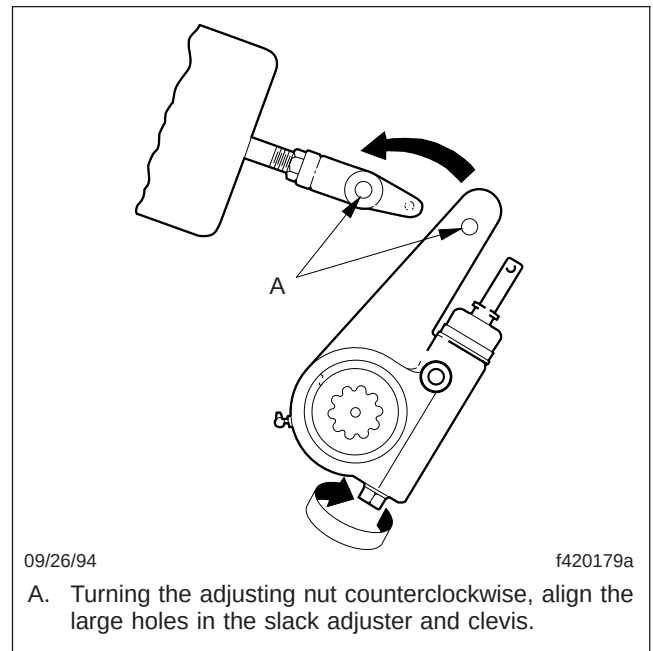

Fig. 4, Slack Adjuster Installation
- 6.5 Using a wrench, turn the manual adjusting nut counterclockwise to align the hole in the slack adjuster housing with the large hole in the clevis. See Fig. 4.
- 7.7 Using a wrench, turn the manual adjusting nut counterclockwise to align the hole in the slack adjuster housing with the large hole in the clevis. See **Fig. 4**.